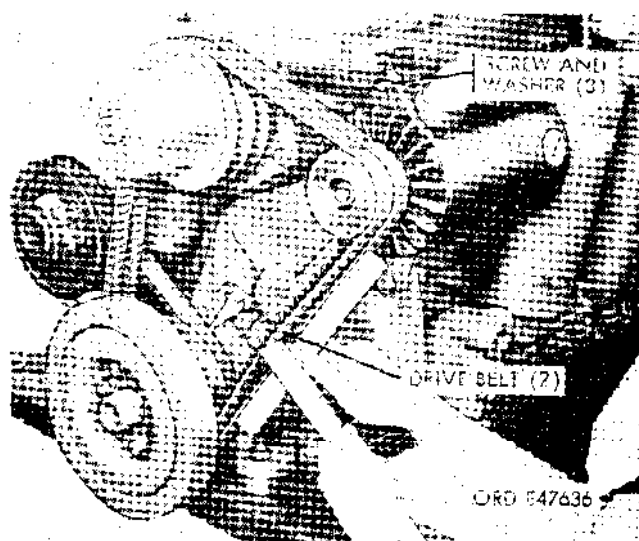
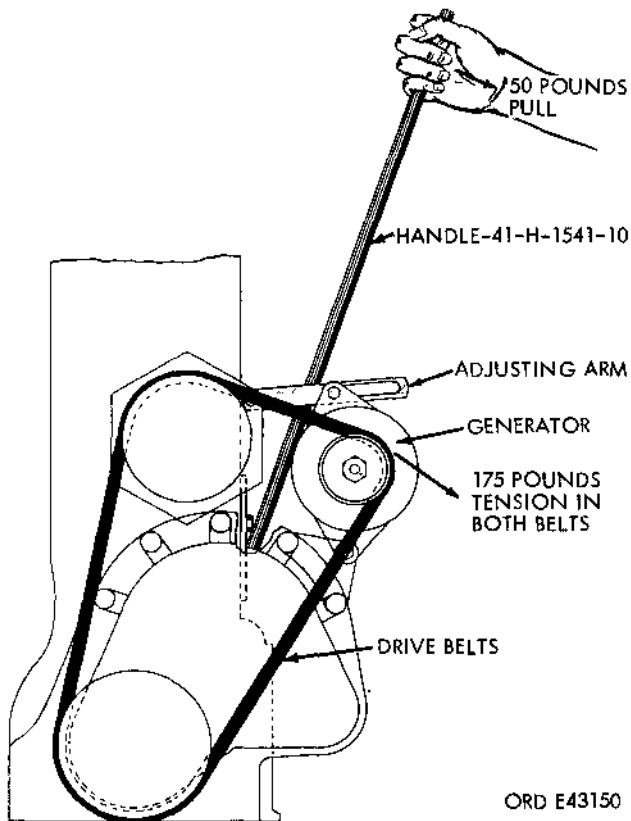
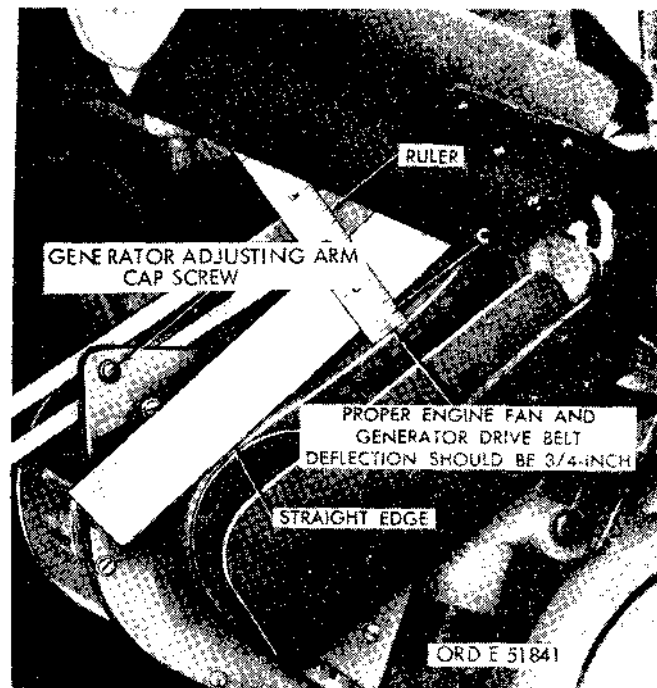

Figure 2-127. Drive belt adjustment.
Figure 2-128. Adjusting drive belts.
Figure 2-129. Drive belt deflection and adjustment.
*a. Adjustment.* Drive belt adjustment should be made on new engines after the vehicle has traveled 100 miles. Check the drive belt tension by applying a slight pressure individually to each belt at a point midway between fan and generator pulleys. Belt deflection at this point should be between  $\frac{1}{4}$  and  $\frac{1}{2}$  inch as indicated in figure 2-127. If belt deflection is less than  $\frac{1}{4}$  inch or more than  $\frac{1}{2}$  inch, adjust as follows:
(1) Loosen the generator-to-adjusting arm screw (fig. 2-127).
(2) Insert the end of the rim tool-and-wheel nut wrench handle (fig. 2-128), or a 30-inch bar between the crankcase and the generator.
(3) Pull the upper end of the handle away from the engine with a pull of 50 pounds (fig. 2-128), and keeping the handle in this position, tighten the generator-to-adjusting arm screw (fig. 2-127).
(1) Loosen the generator-to-adjusting arm screw (fig. 2-127), and move the generator as far as it will go toward the engine.
(2) Remove the front belt from the generator, fan, and crankshaft pulleys, and lift the belt over the fan.
(3) Remove the rear belt as described in (2) above.
(1) Place the rear drive belt (fig. 2-127) over the fan, and then over the crankshaft, fan, and generator pulleys.
(2) Install the front drive belt as described in (1) above.
(3) Adjust the drive belts as described in *a* above.
*a. Adjustment.* Drive belt adjustment should be made on new engines after the vehicle has traveled 100 miles. Check the drive belt tension by applying a slight pressure individually to each belt at a point midway between the fan and generator pulleys. Belt deflection at this point should be three-quarters of an inch (fig. 2-129). If the belt deflection is found to be otherwise, adjust the belt tension as follows:
(1) Loosen the generator-to-adjusting-arm capscrew (fig. 2-127).
(2) Insert the end of the rim tool-and-wheel nut wrench handle or a 30-inch bar, between the crankcase and the generator. Make sure that the lower end of the handle will bear against the crankcase at a point directly below the front capscrew on the valve tappet chamber front cover.
(3) Pull the upper end of the handle with a pull of 50 pounds and, keeping the handle in this position, tighten the generator-to-adjusting arm cap screw. This procedure should place both belts under the proper tension, and allow the belt deflection specified above.